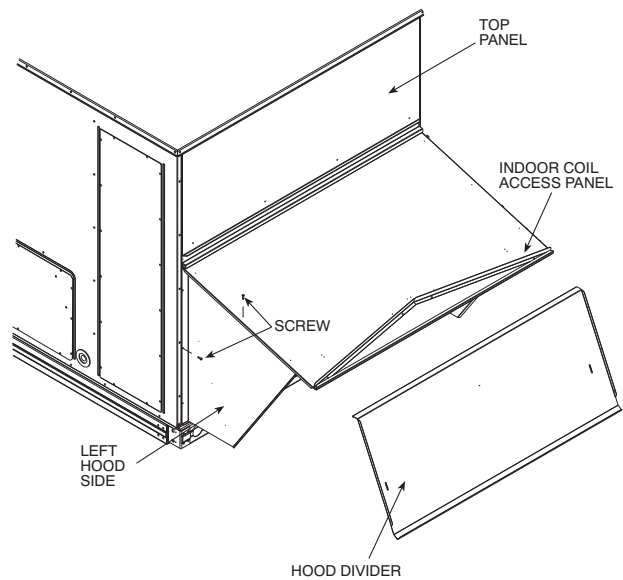

Fig. 14 — Economizer Hood Construction
- Swing out indoor coil access panel and insert the hood sides under the panel (hood top). Be careful not to lift the panel too far as it might fall out. Use the screws provided to attach the hood sides to the hood top. Use screws provided to attach the hood sides to the unit. See Fig. 14.
- Insert the hood divider between the hood sides. See Fig. 14 and 15. Secure hood divider with 3 screws on each hood side. The hood divider is also used as the bottom filter rack for the aluminum filter.